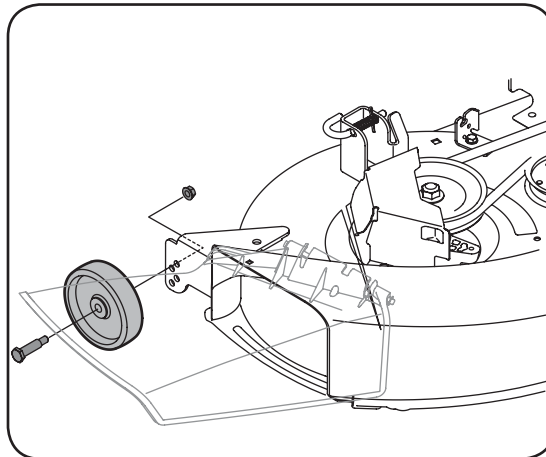

Figure 3-8
- b. Remove the gauge wheels by removing the lock nuts and shoulder screws which secure them to the deck. See Fig. 3-8.